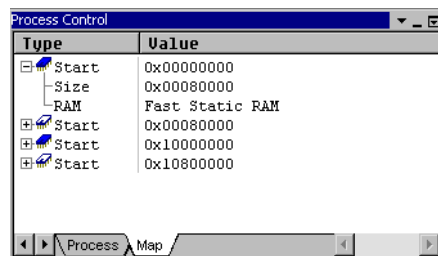

Figure 13-31 New memory block in the Map tab
11. Select **View** → **Memory Map** tab to view the **Map** tab, shown in Figure 13-31.